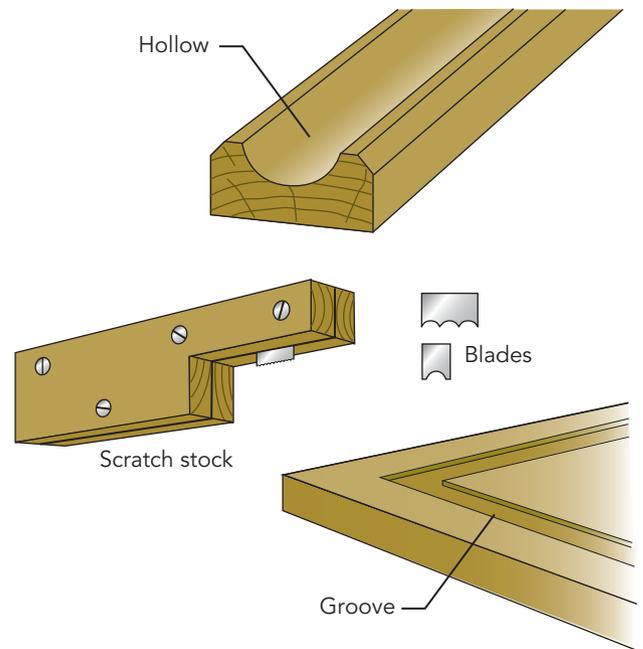

Figure 5.20d Hollow and groove made with scratch stock
A **trench** is cut across the grain. Trenches can be produced with a router or by using **scratch stock** (Figure 5.20d).
- 2 Waste is cut out with a chisel used ground side down and the groove is cleaned out with a scratch stock (Figure 5.20d). Bands, mitred at the corners, should be an accurate press fit and flush with the surface or the thickness of a fine shaving above. If the fit is too tight, take a fine shaving off the edge of the banding in preference to widening the groove. If the inlay is below the surface, the whole surface of the work will need to be planed down level with it: if only the area near the inlay is planed, this will show when the work is polished.